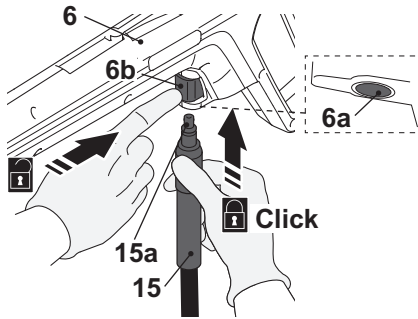

Fig. 5
- > Insert the connector (15a) of the pressure hose (15) into the hose connection port (6a) of the spray gun (6). Ensure it snaps in place (Fig. 5). Press the release button (6b) to unlock if necessary.